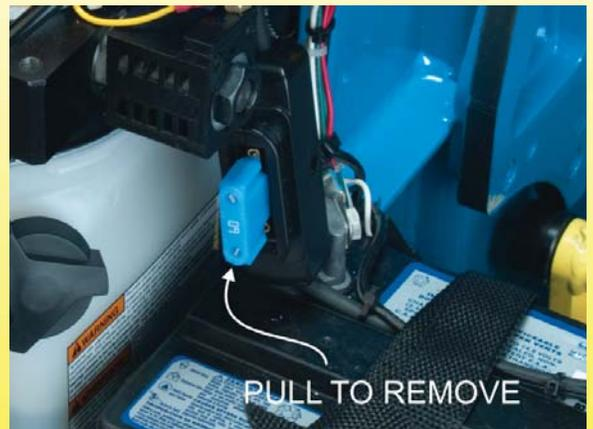

Figure 27 Main Power Fuse
- Follow the instruction above to remove the lower battery cover. As shown in Figure 27, locate the main power fuse attached to the right battery. Unplug the fuse to disconnect all battery power to the system.